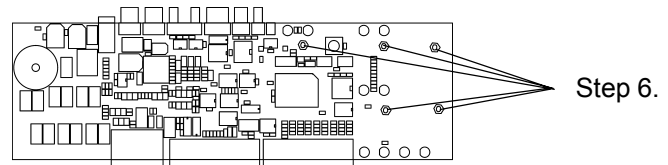
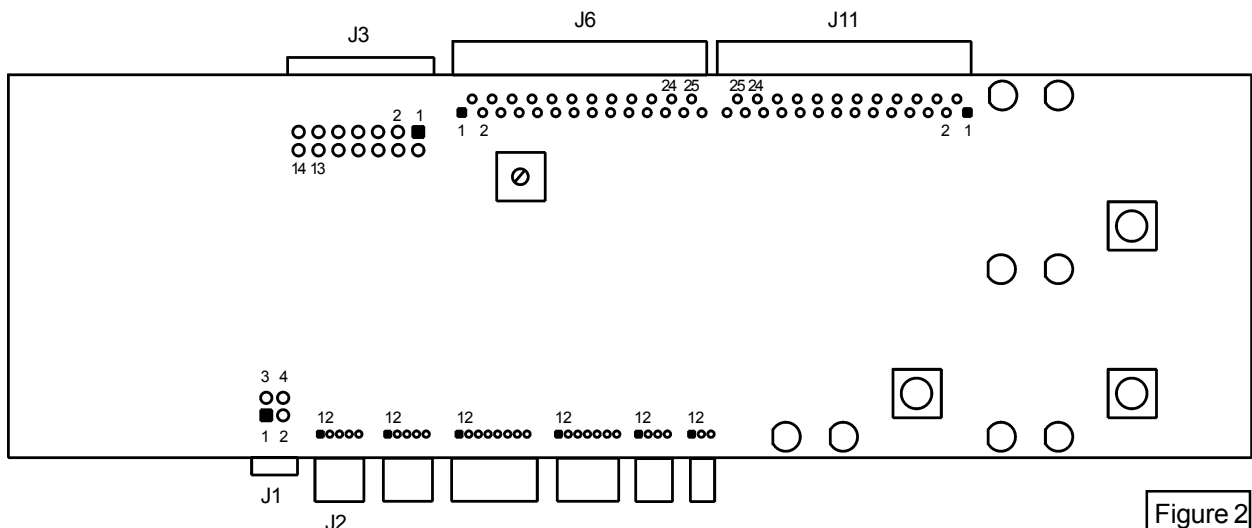

Figure 3
Figure 2
6. Loosen the four 7 mm screws holding the PWB plate, according to figure 2.
7. Slide the PWB plate to the rear and hook it up on the two lower 7 mm screws, according to figure 3.
5. Disconnect the 5 connectors J1, J2, J3, J6 and J11, according to figure 2
6. If changing panel. Remove the five nuts, holding the panel according to figure 3.
7. Loosen the 3 mm allen screw holding the Roller clutch assembly according to figure 2.
8. Remove the three 2.5 mm allen screws holding the Bin motor according to figure 2.
Adjust the Bin motor roller clutch assembly so that the sensor activator is in the middle  $\pm 0.5$  mm of sensor Q2, according to figure 3. Adjust by loosening the 3 mm allen screw on the roller clutch assembly. Figure 2.
5. Loosen the 3 mm allen screw holding the drive clutch according to figure 2.
6. Remove the three 2.5 mm allen screws holding the drive motor according to figure 2.